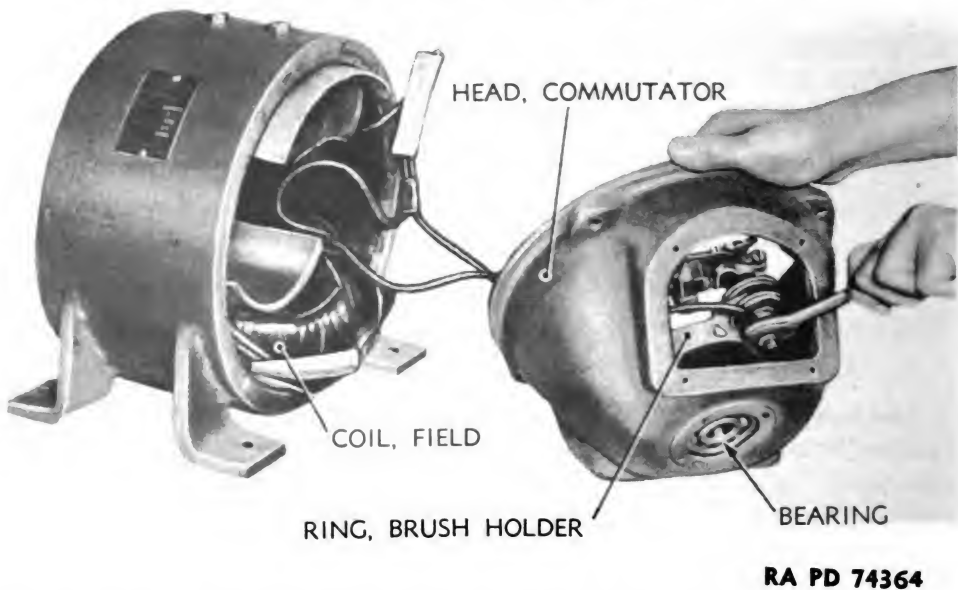

Figure 208 — Connecting Exciter Field Coil Leads to Brush Ring
(4) Attach the commutator head to the field body with four fillister-head screws, first connecting field coil leads A1 and A2 to the brush-holder ring terminals (fig. 208).
(5) Slide retainer ring on the armature shaft, commutator end, and insert armature through field body and commutator head.
(6) Slide felt washer and gasket over the armature shaft, set pulley end hood in position, and attach to field body with fillister-head screws.
(7) Screw castellated end nut on shaft, and secure with cotter pin. Install commutator end cap with fillister-head screws.
(8) Slide spring washer and retainer ring over shaft. Install pulley end cap with fillister-head screws.